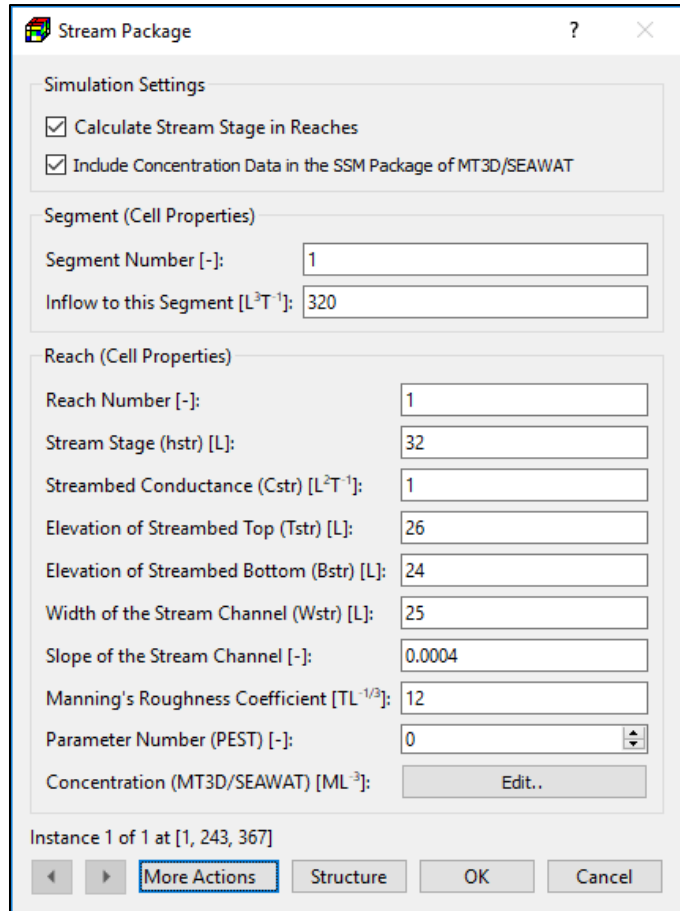

Figure 87. The Stream Package dialog box for specifying cell properties
1. **Cell-by-cell input method:** Figure 87 shows the dialog box for specifying reach properties.